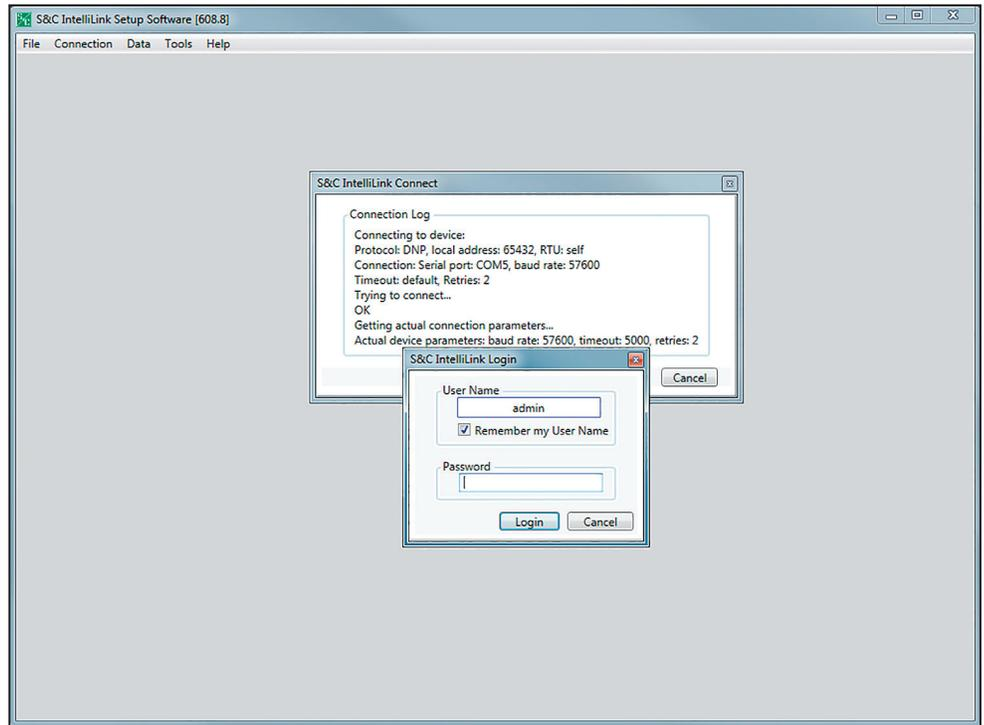

Figure 14. The IntelliLink Setup Software Login dialog box.
STEP 7. Log in to the control and follow the dialog instructions. If prompted during the upgrade, enter the default username and password. See Figure 14.